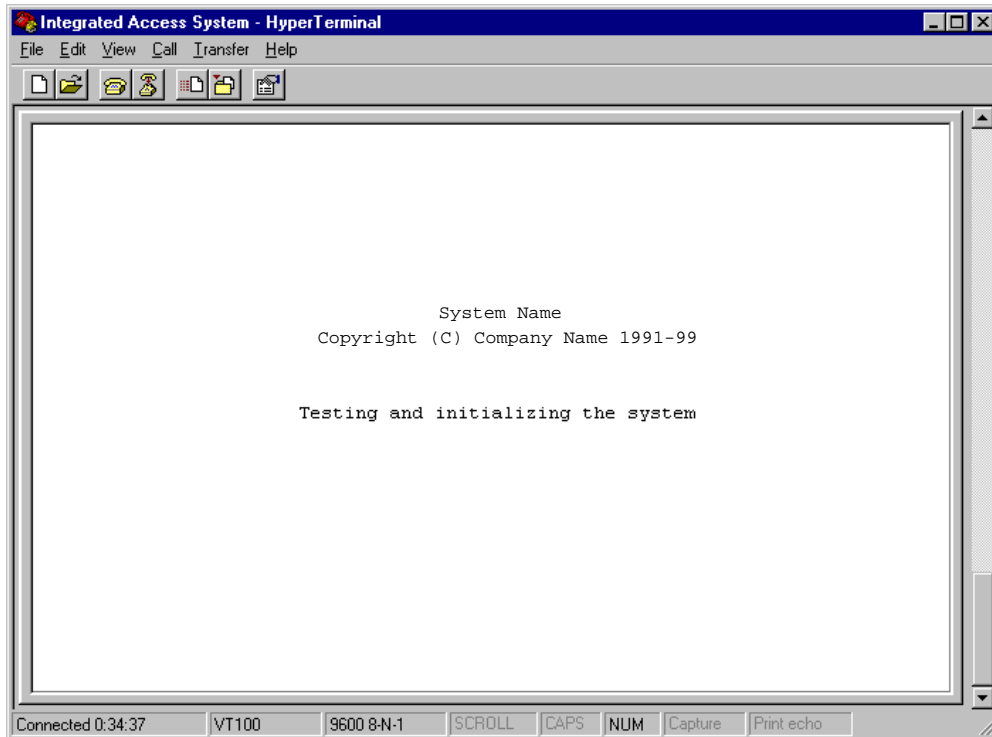
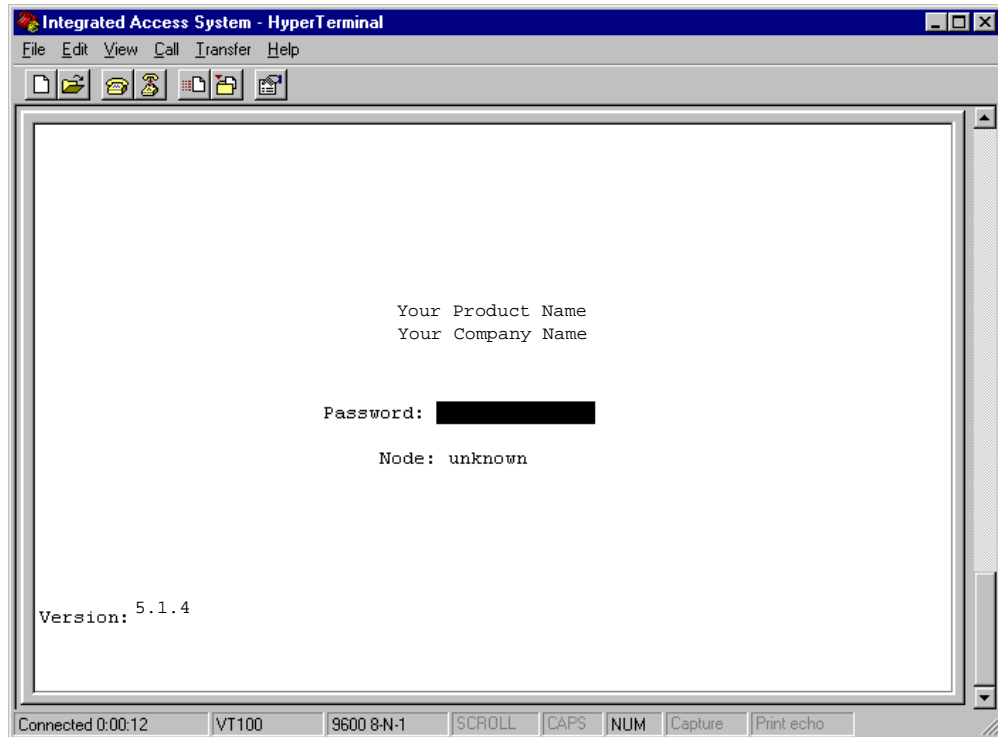

Figure 4-5. Testing and Initialization Screen
Figure 4-6. Typical Login Screen
The system will display the “Testing and Initializing the System” screen in Figure 4-5 above. When testing and initializing is complete the screen will go blank. Press the <Enter> key. The System Login Screen will display. See Figure 4-6.
1. Press <Enter>. The Login Screen depicted in Figure 4-6 should appear. If not, press <Enter> repeatedly until it does.